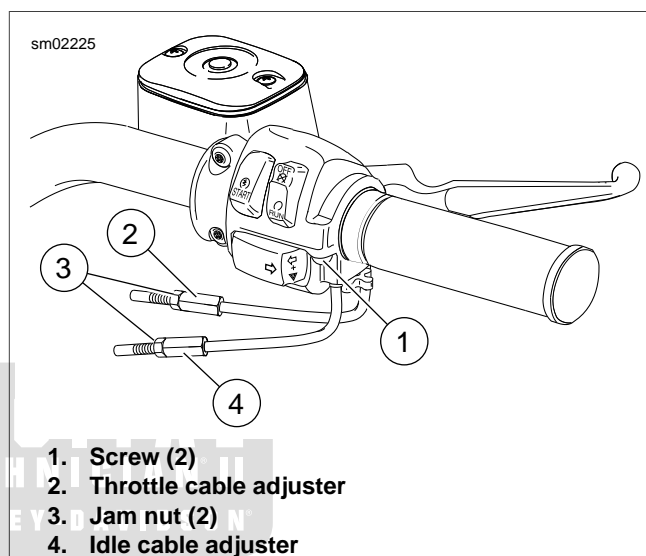
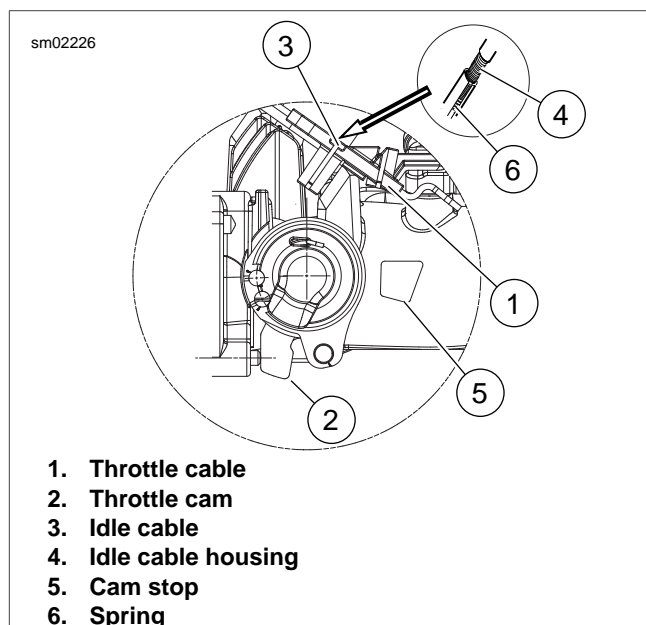

Figure 1-29. Throttle Cable Adjusters
Figure 1-30. Induction Module Cable Connection
1. See Figure 1-29. Remove two screws (1) to separate the upper handlebar housing from the lower housing.
5. When assembling the handlebar housing, tighten both screws (1) to 35-45 **in-lbs** (4.0-5.1 Nm).
1. See Figure 1-29. Slide rubber boot off throttle cable adjuster mechanism (2).
3. Back jam nut (3) away from cable adjuster until it stops. Turn cable adjuster clockwise until it contacts jam nut. Repeat procedure on idle cable adjuster.
4. See Figure 1-30. Point the front wheel straight ahead. Gently turn the throttle grip so that the throttle is wide open (fully counterclockwise) and then hold in position. Now turn the throttle cable adjuster counterclockwise until the throttle cam (2) just touches the cam stop (5) on the induction module.